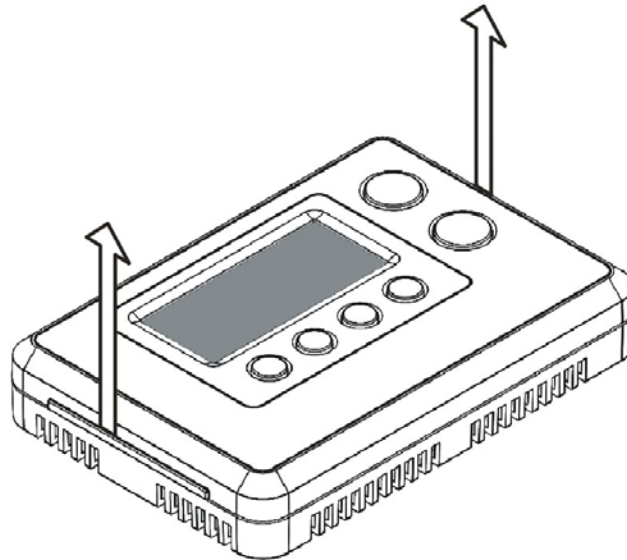

Figure 5. Open ZTS-100
1. Open the ZTS-100 by pushing the hook (Figure 5)